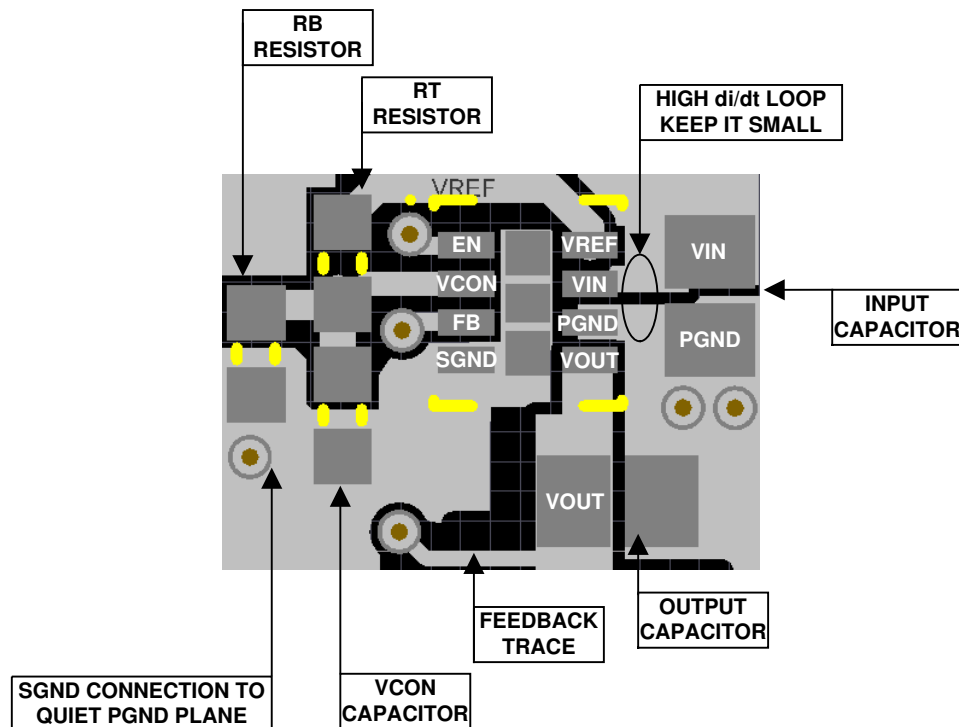

図 8-26. Example Top Layer Board Layout
The LMZ10501 integrates the inductor and simplifies the DC/DC converter board layout. Refer to the example layout in Figure 8-26. There are a few basic requirements to achieve a good LMZ10501 layout.
2. Place the V_{CON} filter capacitor C_{VC} and the R_{B} R_{T} resistive divider as close as possible to the V_{CON} and SGND pins. The C_{VC} capacitor (not R_{B}) must be the component closer to the V_{CON} pin, as shown in Figure 8-26. This allows for better bypass of the control voltage set at V_{CON} .